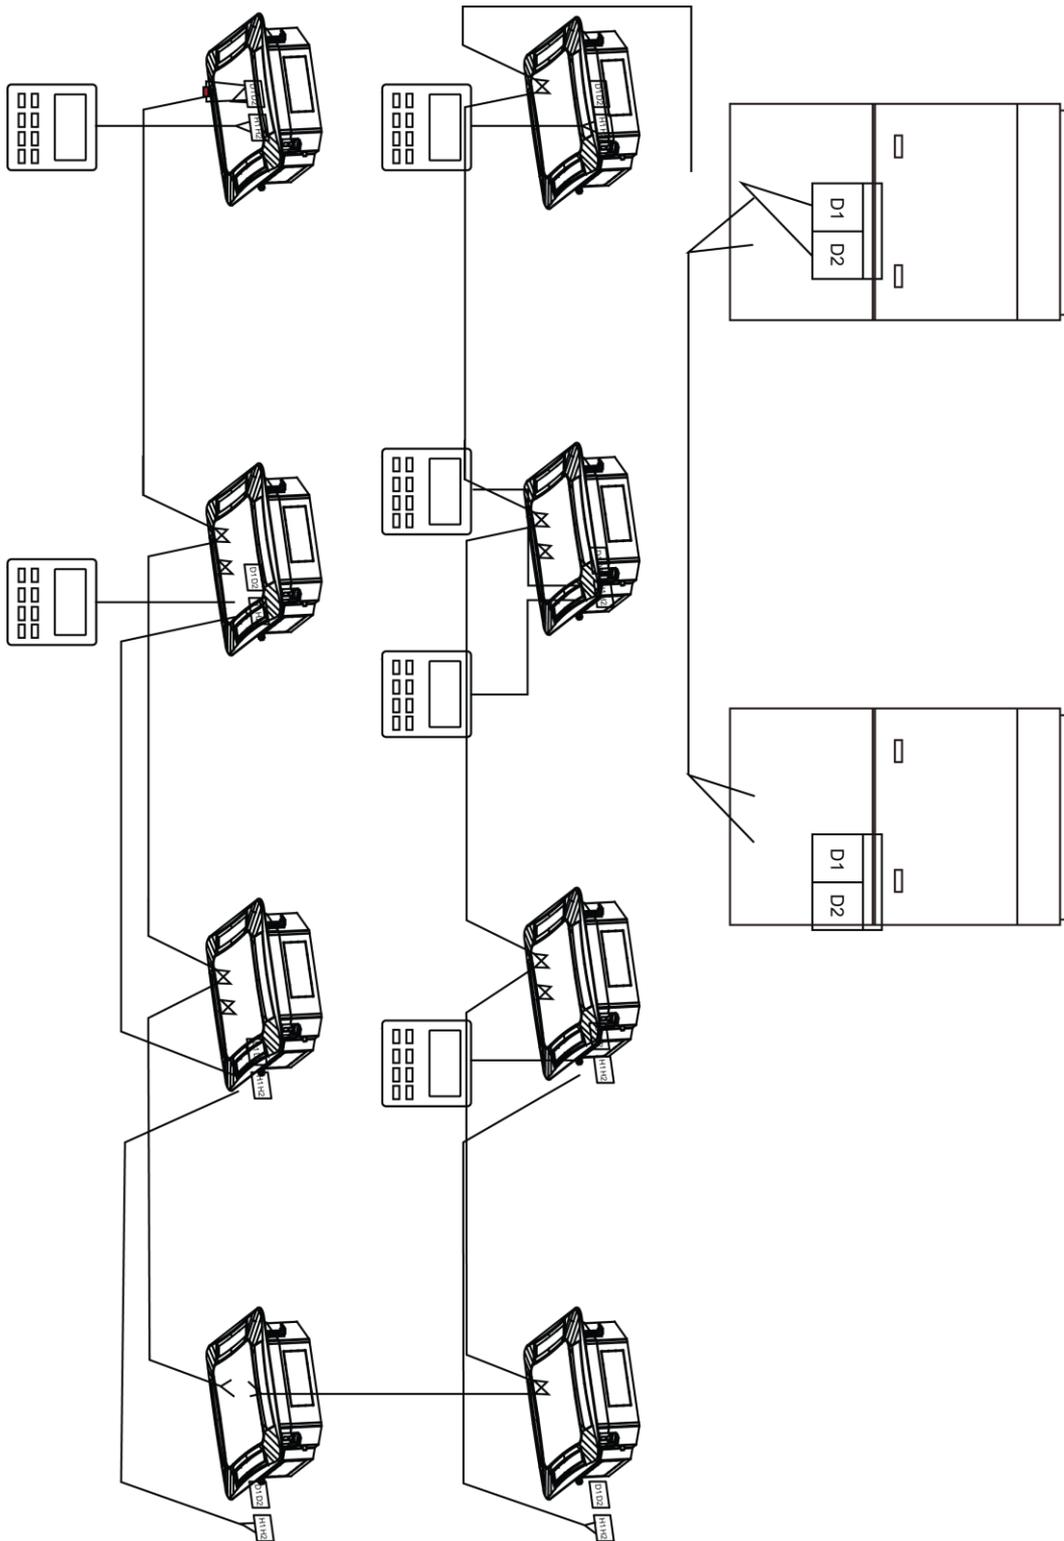

Fig 5.5
- (1) Communication wire of indoor unit and outdoor unit (or indoor unit) is connected to D1, D2.
- (2) Wired controller is connected to H1, H2.
- (3) One indoor unit can connect two wired controllers that must be set as master one and slave one.
- (4) One wired controller can control 16 indoor units in maximum at the same time. (as shown in Fig5.5) top using it immediately and contact local service center for assistance.